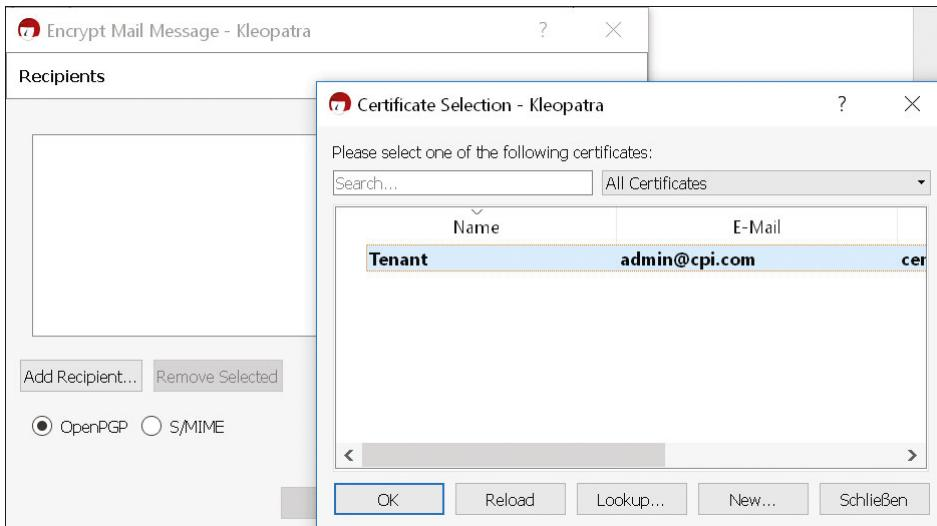

Figure 10.38 Selecting the Key to Be Used to Encrypt the Clear Text
5. Imagine that you, as a sender, communicate with many recipients who have shared their public keys with you. In this step, select the key from that recipient (the tenant, in our case) to whom you'd like to send an encrypted message (see Figure 10.38).